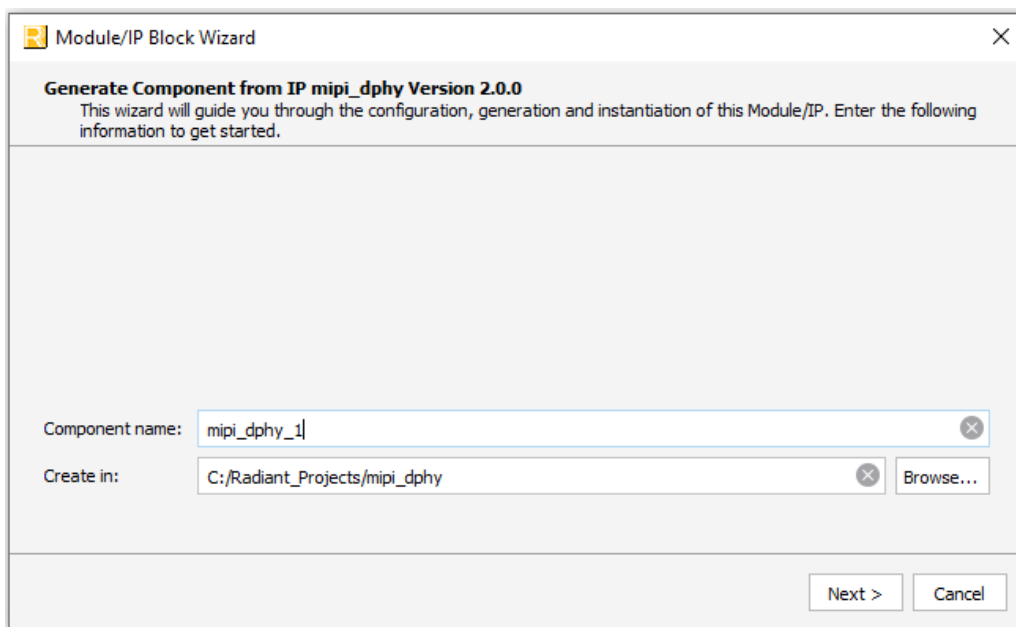

Figure 3.1. Module/IP Block Wizard
2. In the **IP Catalog** tab, double-click on **MIPI_DPHY** under **Module, Architecture_Modules, IO** category. The **Module/IP Block Wizard** opens as shown in Figure 3.1. Enter values in the **Component name** and the **Create in** fields and click **Next**.
- Click the **Finish** button. All the generated files are placed under the directory paths in the **Create in** and the **Component name** fields are shown in Figure 3.1.